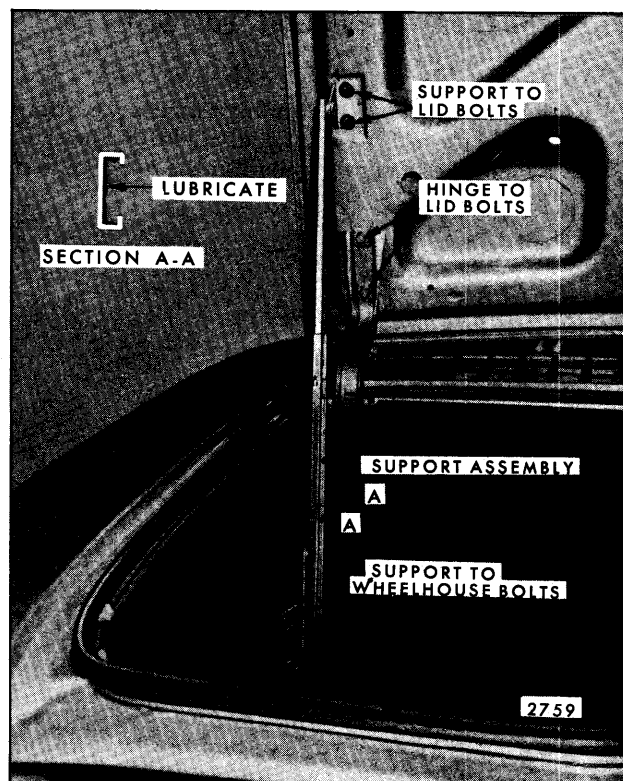

Fig. 2-16—Engine Compartment Lid Support
1. Apply a thin coat of white lithium soap grease (Lubriplate 630 AAW or equivalent) to the inner surface telescoping channel of the compartment lid support (Fig. 2-16).